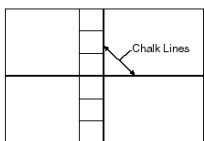
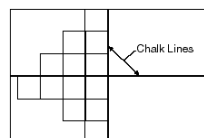

Fig. 3
Fig. 4
**Typically, floor tile is laid in sections, starting in the center of the room, marked with chalk lines** (Figure 3). The size of each section should be approximately 135 square feet to correspond with the amount of adhesive in a gallon unit. Typical patterns are straight-line (Figure 3) (3 ft. by 45 ft.) or pyramid-shaped (Figure 4).